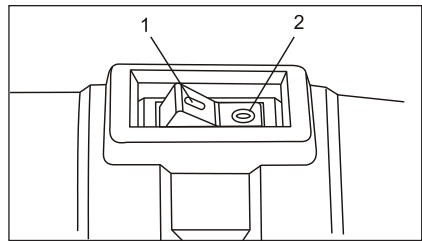

Fig. 2
To turn the switch ON, push on the lower part of the ON/OFF switch (1) (Fig. 2). To turn the switch OFF, push on the upper part of the ON/OFF switch (2).